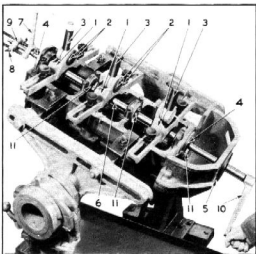

Fig. 8—Main Bearing Boring Machine
When it is necessary to replace main bearings, the clutch housing should not be removed from the cylinder block. This is very important, as the transmission pilot hole in the clutch housing is used in the alignment of the boring bar. Should it be necessary to replace the clutch housing, the new part must be assembled to the cylinder block and checked for alignment before main bearings are installed. The main bearing boring machine J-1000 illustrated in Fig. 8 is used for boring new main bearings in proper alignment.
3. Install centering bushings (4), Fig. 8, in the front and rear bearing bores and install the bearing caps without shims.